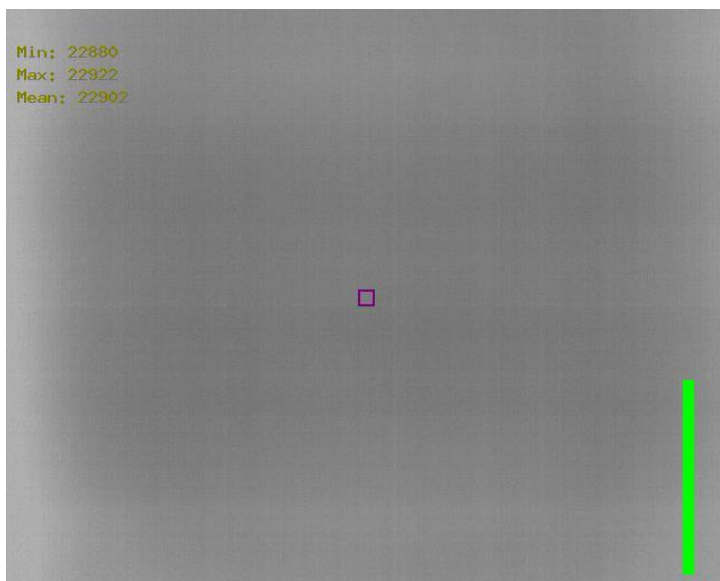

Figure 41: "Spot Meter" Symbol (Non-Radiometric 640 config.)
- Spot Meter: By factory default, the symbol shown in Figure 41 is displayed whenever the camera has spot meter enabled. (See Section 6.4 for full description of this feature.) Four components make up this automatic symbol: